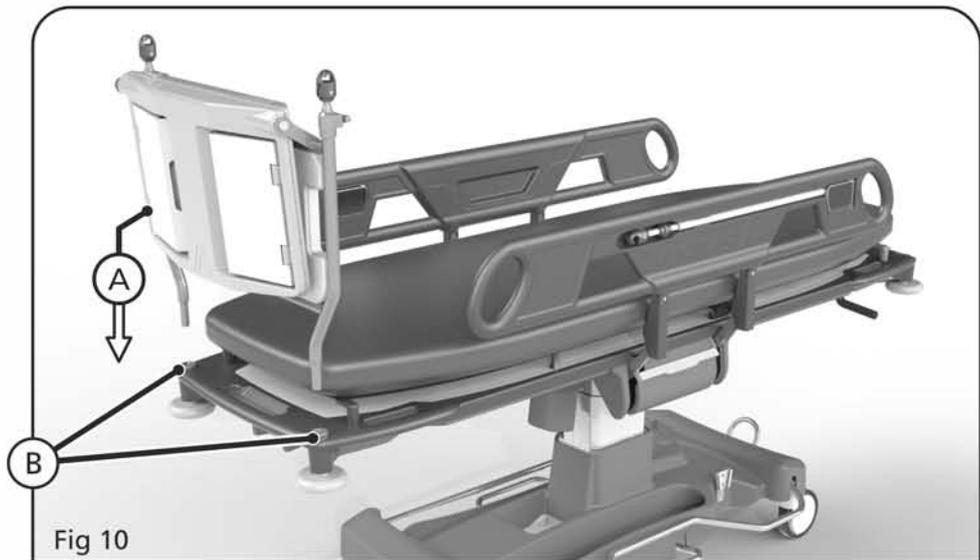
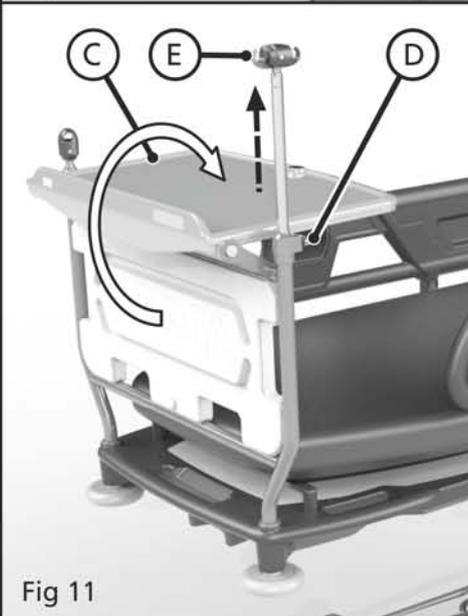

Fig 10
Fig 11
As illustrated in Fig.10 overleaf, insert the monitor shelf with removable refreshment tray (A) in to the location sockets at the foot end of the trolley (B). Pivot the removable refreshment tray (C) over the frame so that it sits above the foot end of the patient platform as a monitor shelf, as shown in Fig.11. The monitor shelf has a safe working load of 25kg.
A loose transfusion pole can be inserted into either of the location sockets at the foot end of the trolley; see Fig.10 (B). For instructions on how to use the pole see section 13, 'Using the Transfusion Pole'.